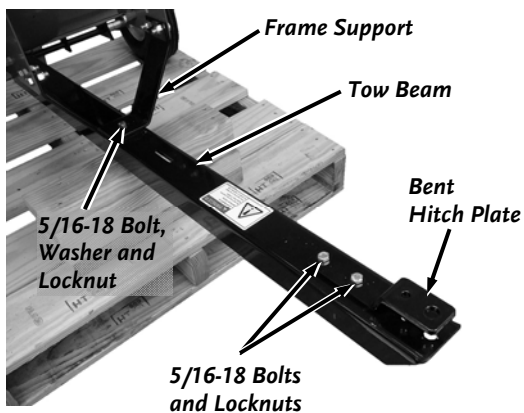
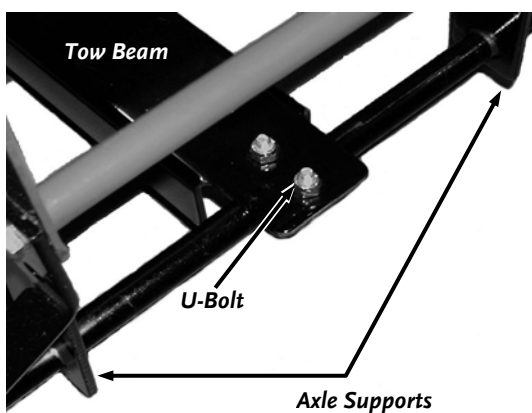

Figure 5
Figure 6
1. Position the Tow Beam under the Frame Support in the front (**Figure 5**) and on top of the Axle in the back (**Figure 6**). Make sure the back end of the tow beam is centered between the Axle Supports.
3. Align the Hole in the Tow Beam with the Hole in the Front Frame Support and insert a 5/16-18 x 1" Bolt down through the Frame and Tow Beam (**Figure 5**). Secure with a 5/16" Flat Washer and a 5/16-18 Lock Nut but do not tighten yet.
4. Re-check the center of the Tow Beam on the Axle and tighten the two Lock Nuts on the U-Bolt (**Figure 6**).
5. Now tighten the 5/16-18 Lock Nut to secure the Front Frame Support to the Tow Beam with two 1/2" Wrenches (**Figure 5**).